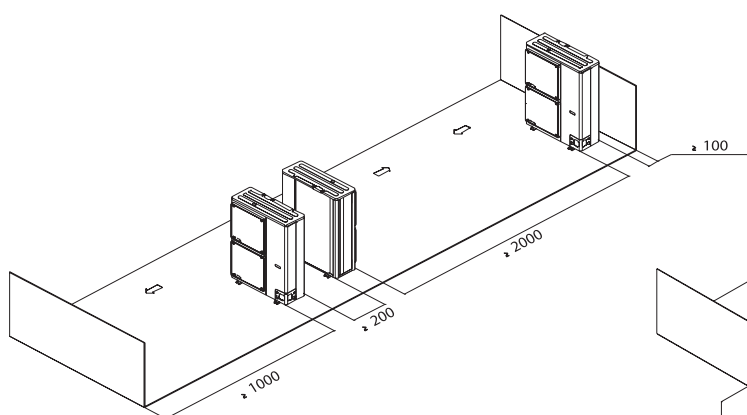

Figure 21
- Multi-lined single installation (see Figure 21)